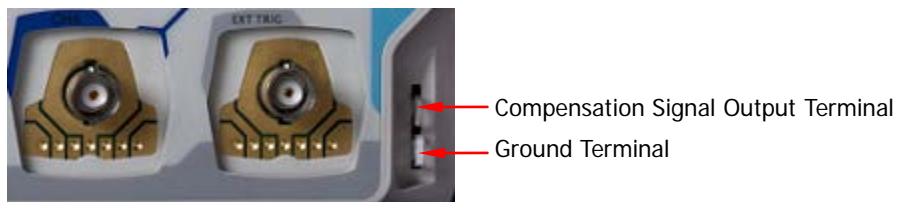

Figure 1-9 To Use the Compensation Signal
2. Connect the ground alligator clip of the probe to the "Ground Terminal" as shown in Figure 1-9.
3. Use the probe to connect the input terminal of CH1 of the oscilloscope and the "Compensation Signal Output Terminal" of the probe as shown in Figure 1-9.